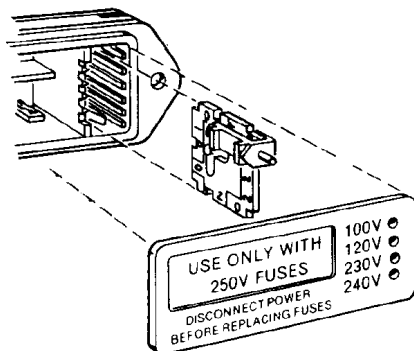

Figure 4. Changing the mains power supply voltage.
- The voltage selector card is a small circuit board fitted with a white plastic indicator pin, installed in a housing on the right side of the Power Entry Module as shown in Figure 4. Pull the voltage selector card straight out of the housing, using narrow pliers to grab the card. Do not use the indicator pin as a handle.